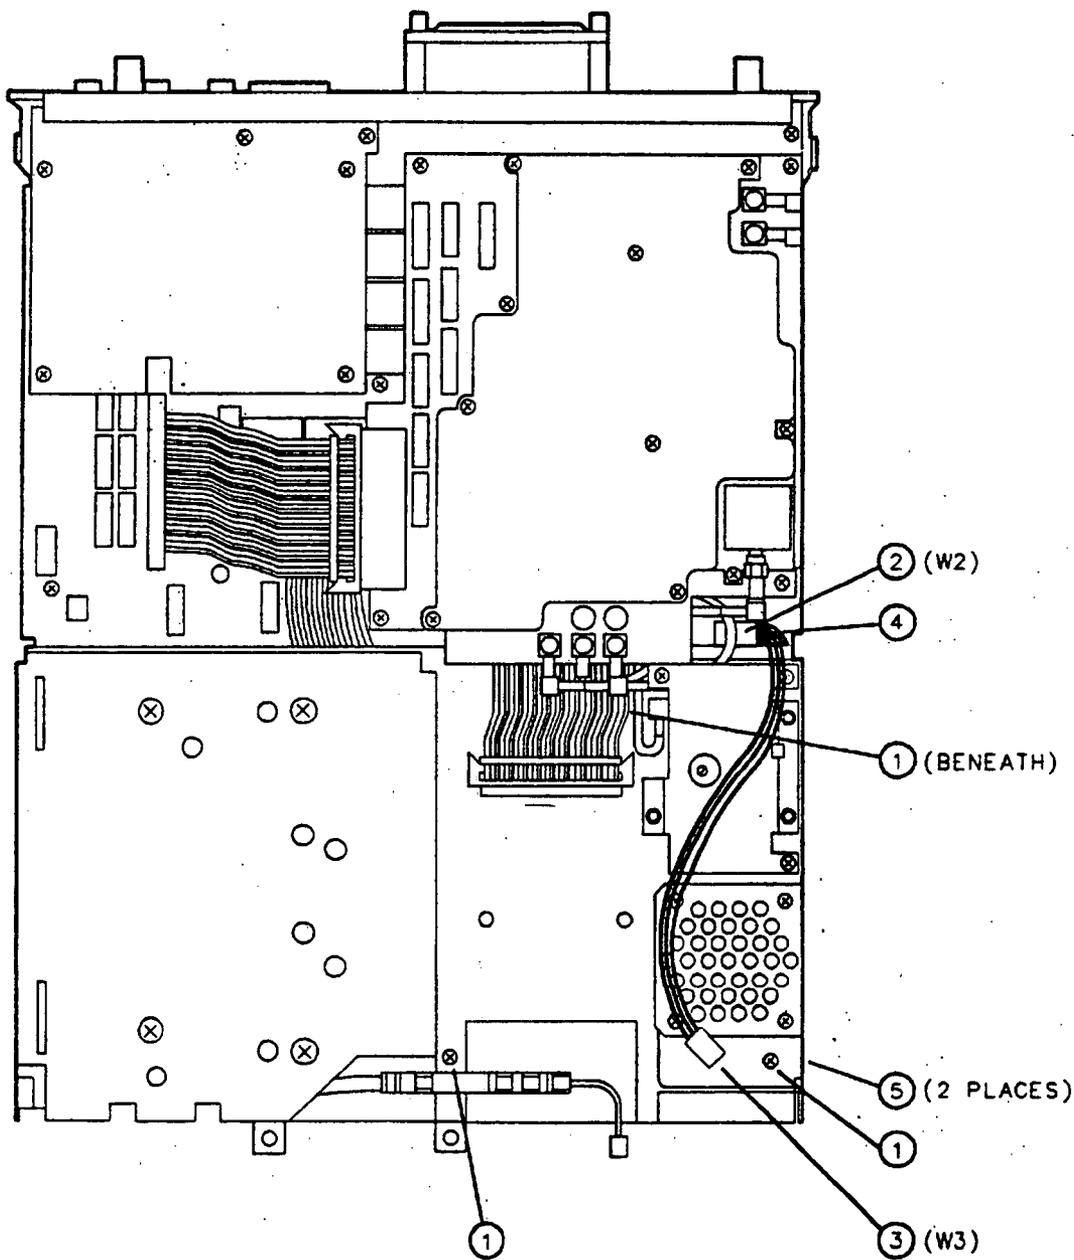

Figure 3-3. A2 Display Replacement
5. Remove the three screws (1) that secure the A2 Display to the chassis. See Figure 3-3.
6. Disconnect the W2 wire harness (2) from A16J8 on the A16 Processor/Video Board Assembly.
2. Place the display close to the front of the enclosure and route W2 and W3 out through the opening (8).
3. Slowly push the display into the enclosure while pulling W2 and W3 through the opening (8).
4. Replace the screw and flat washer (6) that secure the display to the enclosure.
7. Begin to push W2 and W3 out through the slot (4) in the instrument chassis. See Figure 3-3.